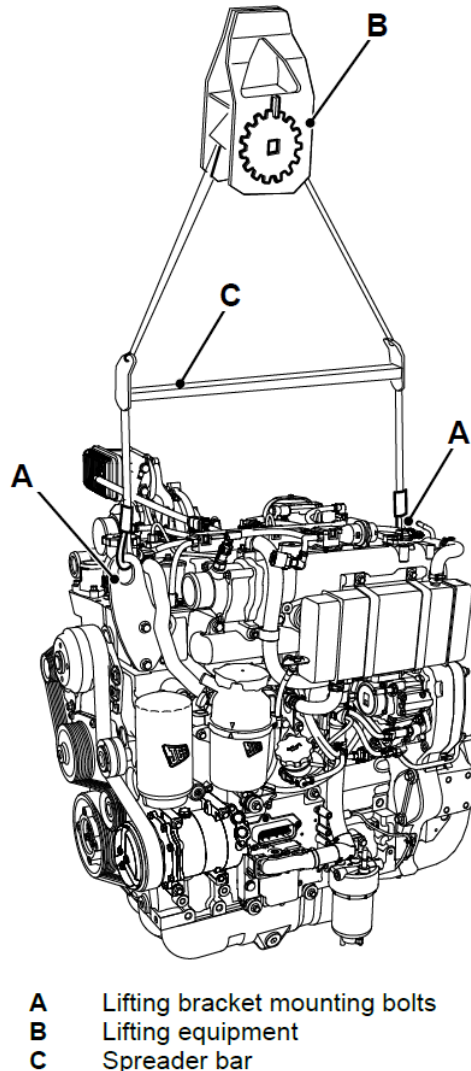

Figure 4.1: Engine spreader bar
- Always use a spreader bar in an assembly environment, refer to figure 4.1. Length of bar should be 550mm internal length (+/-0.8mm), or otherwise be agreed with JCB Power Systems.